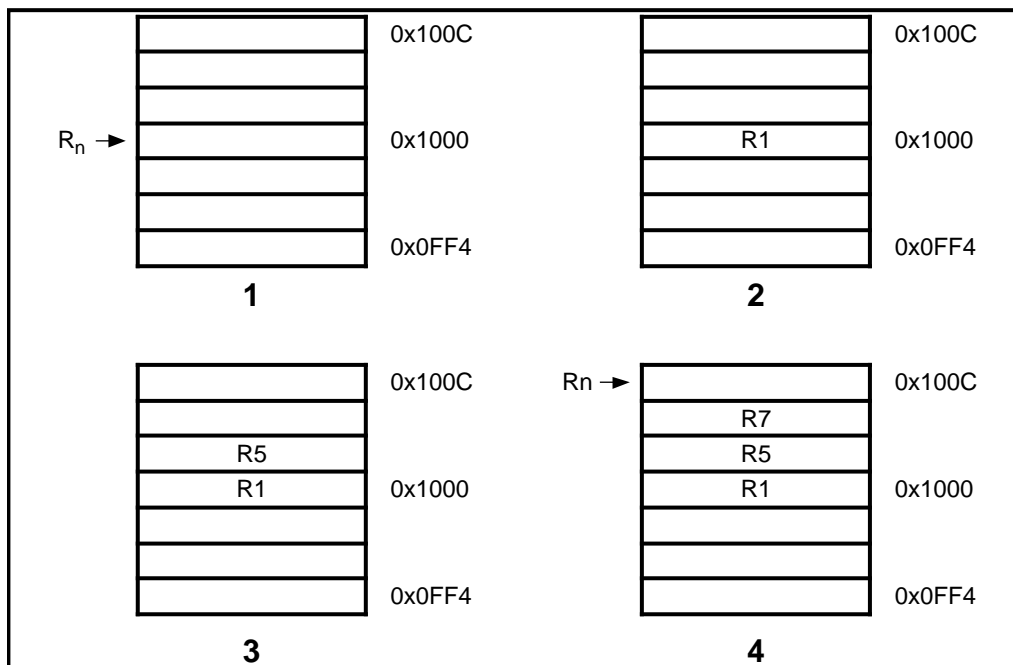
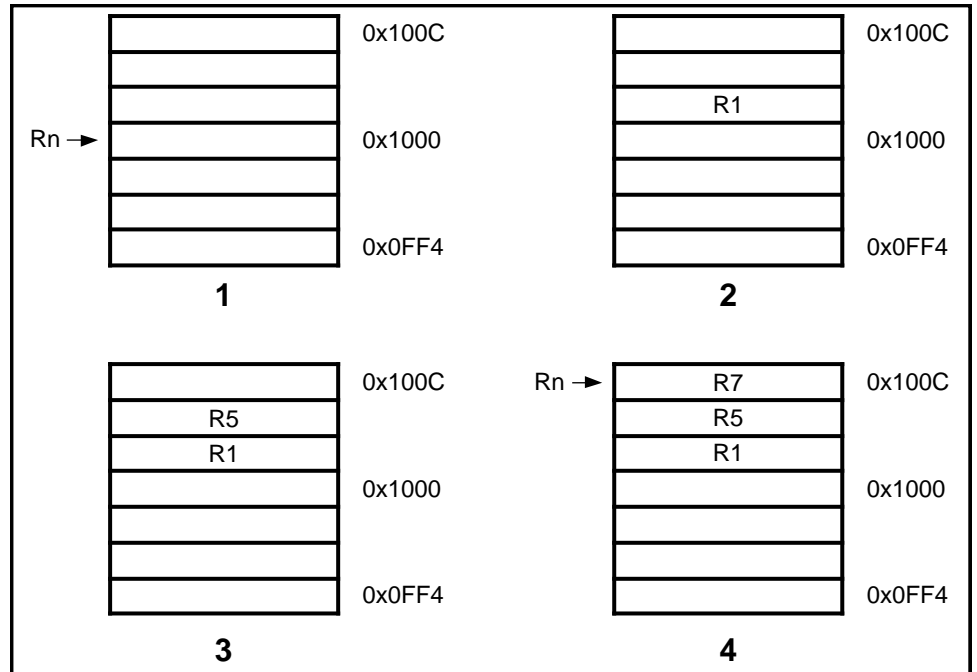
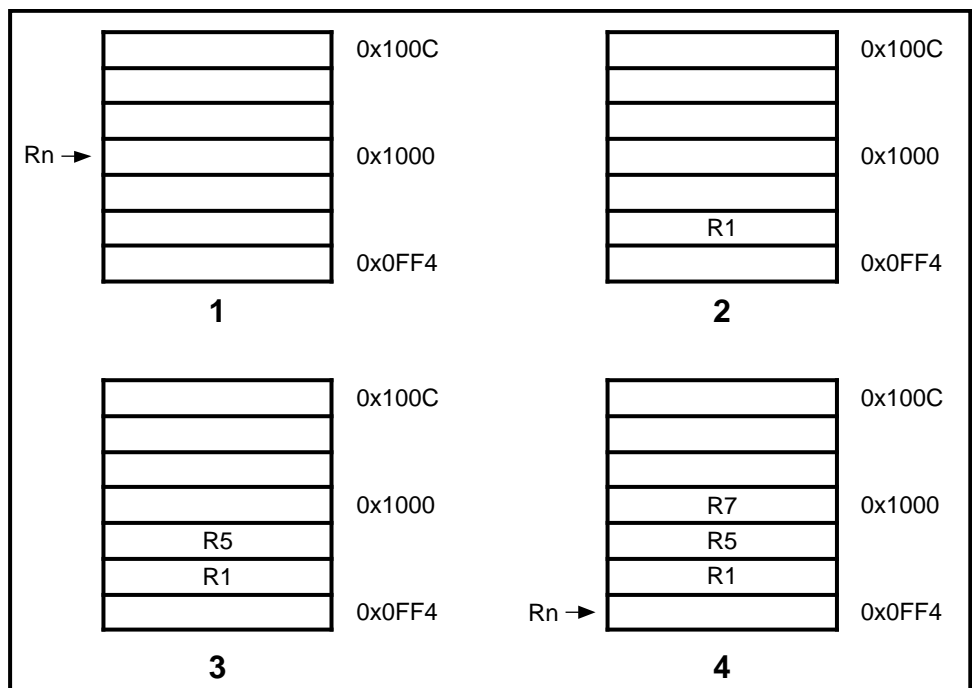
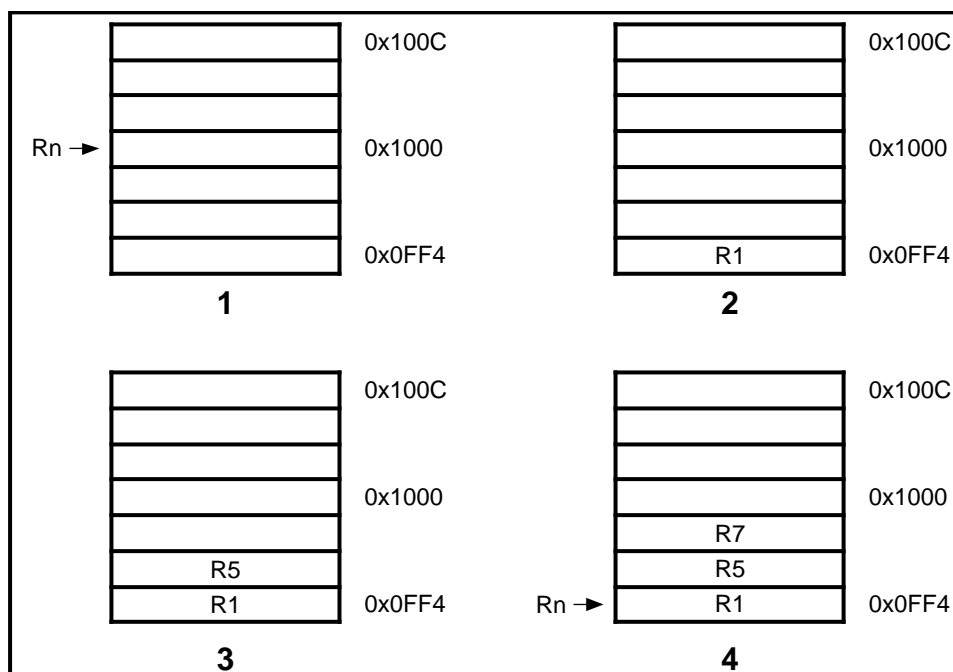

Figure 5-17: Post-increment addressing
Figure 5-18: Pre-increment addressing
Figure 5-19: Post-decrement addressing
Figure 5-20: Pre-decrement addressing
►Figure 5-17: Post-increment addressing, ►Figure 5-18: Pre-increment addressing, ►Figure 5-19: Post-decrement addressing, and ►Figure 5-20: Pre-decrement addressing on page 5-32, show the sequence of register transfers, the addresses used, and the value of Rn after the instruction has completed.